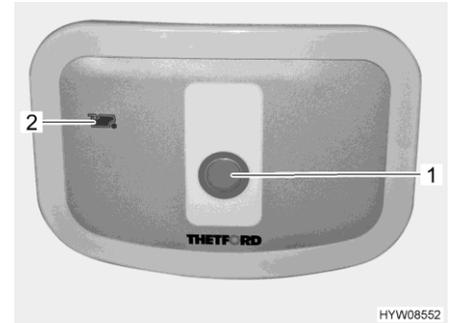

Fig. 139 Flush button/indicator lamp (Thetford toilet)
- For flushing, press the blue flush button (Fig. 139,1).
The indicator lamp (Fig. 139,2) lights up whenever the sewage tank has to be emptied.